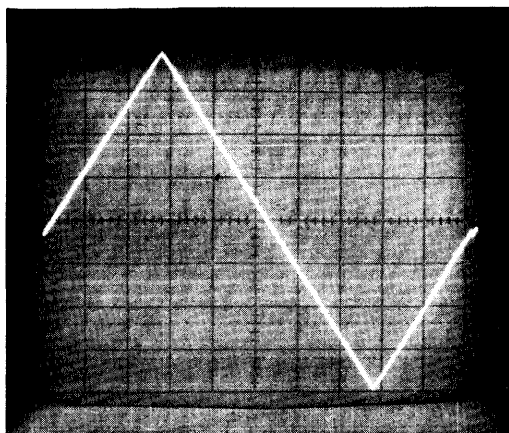

Figure 6.8
Set output level of Function Generator so that a full-scale signal is at the input and that both offscale lights flicker intermittantly. Also note that display should be as shown in Figure 6.8.
6.8.1 See Figure 6.8 and connect the Function Generator as shown. Adjust the input signal for a triangle 5 kHz, 10 V pp waveform.